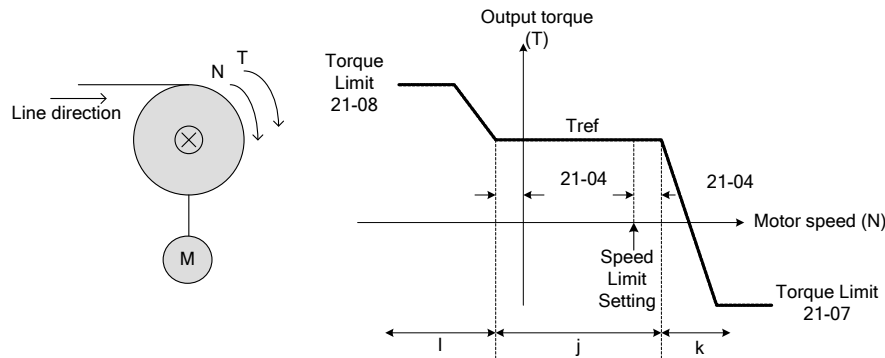

Figure 4.4.124 Winding operation
The line speed (N) and motor torque (T) are in the same direction of the motor. Refer to Figure 4.4.124